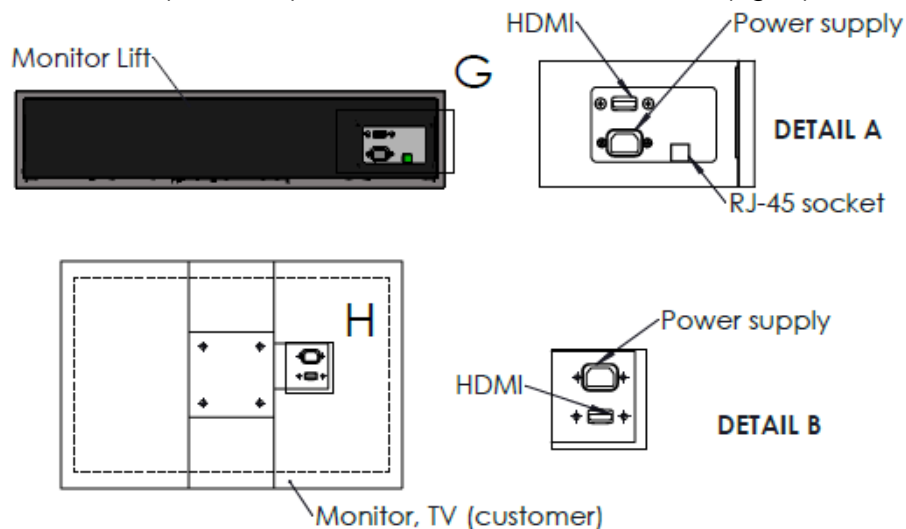

fig. 6
5. Connect HDMI cable (included) to the screen and Monitor lift (fig. 6).
6. Connect power supply (included) to the screen and Monitor lift (fig. 6).